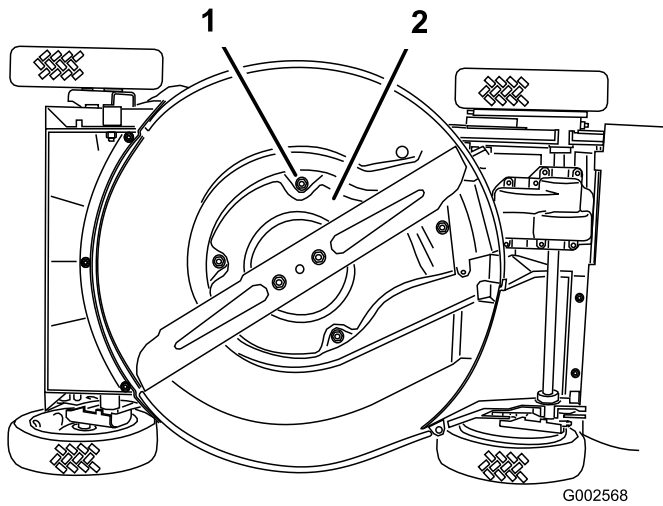

Figure 34
6. Remove the 4 screws that hold the shield in place (Figure 34).